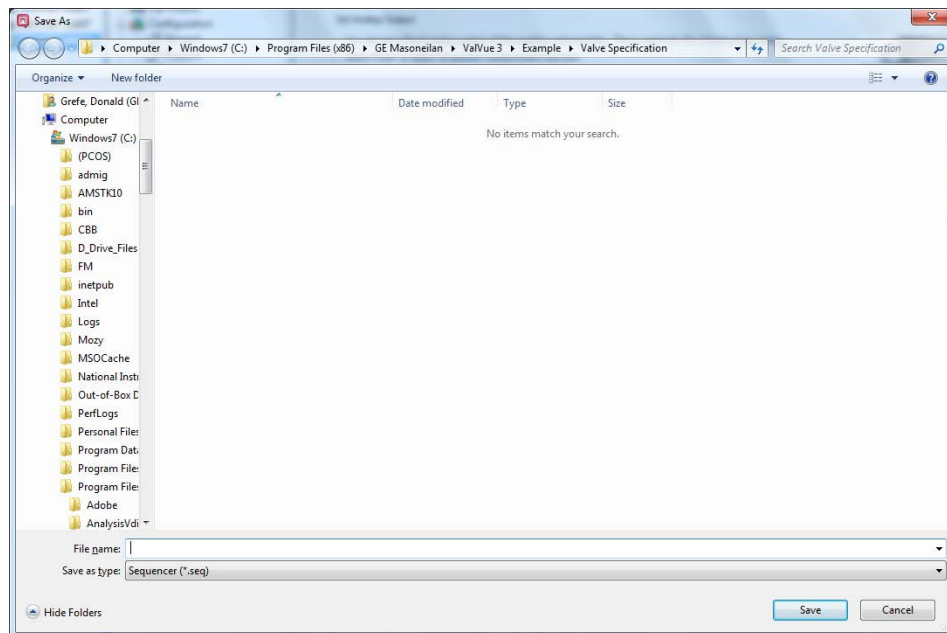

Figure 101 Save a .seq File
2. Click  and Figure 101 appears.